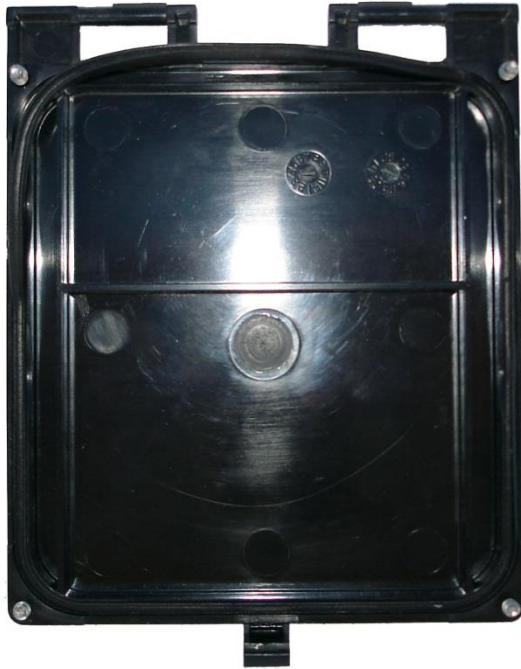

Figure 35: Apply Sealing Strip to Junction Box Cover
5. Next, attach the sealing strip to the inside of the junction box cover, as shown in Figure 35.